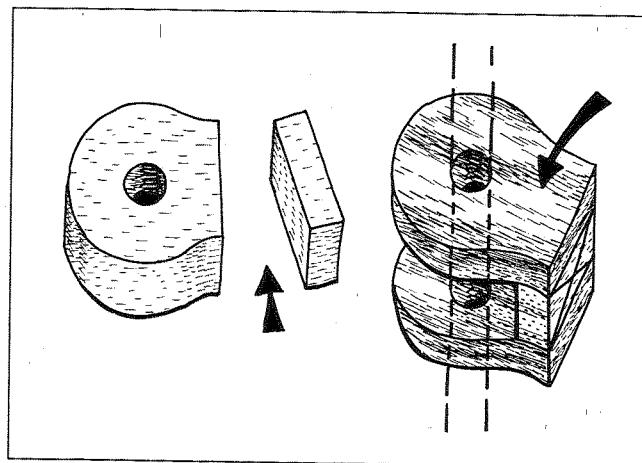

FIGURE 2-7
- 5** When you have achieved the cutout and carefully removed the dowel so you have three layers, mark on the middle layer the area that needs to be cut away (Fig 2-7).